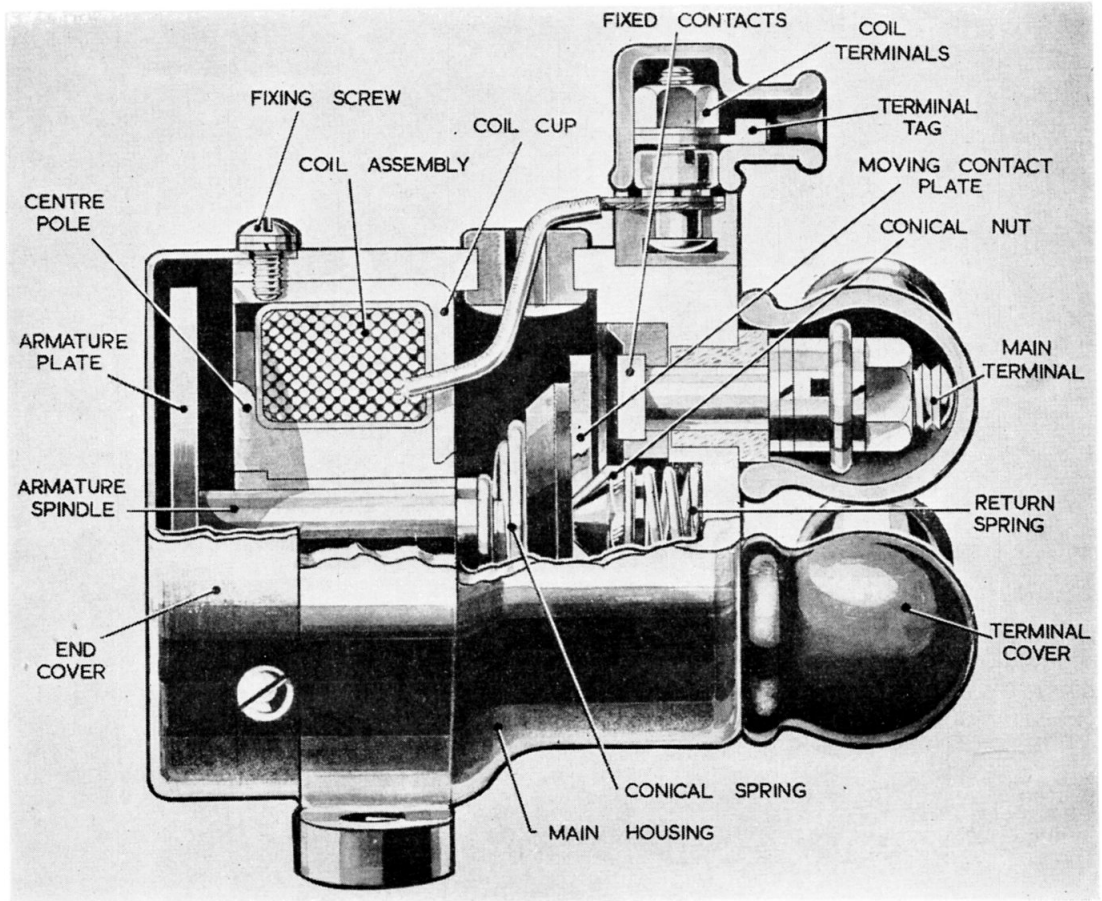

Fig. 2. Sectional view of switch
**2.** A general view of the switch is shown in fig. 1, whilst fig. 2 shows a sectional drawing to which reference should be made when reading the following descriptive paragraphs.